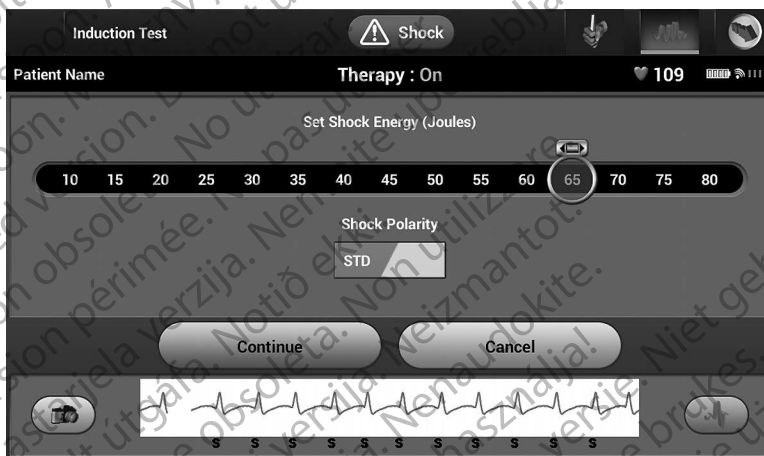

Figure 15: Setting the desired first shock energy for defibrillation testing
2. Select the Shock Test button to setup the induction test (Figure 15).